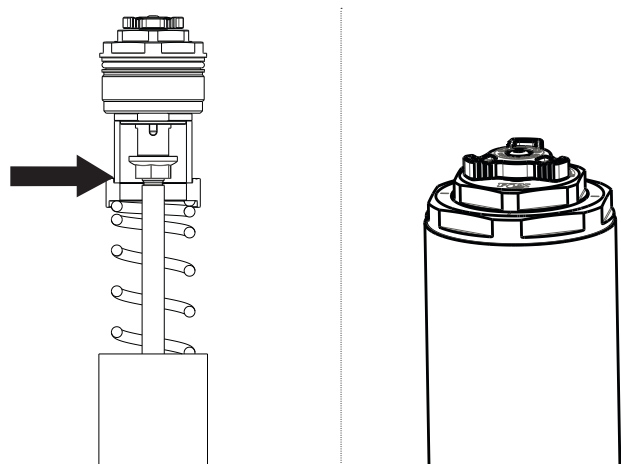

Fig. 16: Preload spacer seated on top cap (left; see arrow). Compress the top cap to thread and torque it onto the upper tube (right).
19. Check that the preload spacer is correctly seated on the top cap (Fig. 16; arrow), and that the spring, spring retainer, preload spacer, and top cap assembly are all aligned properly.
20. Compress the top cap and thread the top cap onto the upper tube (Fig. 16). Use a 45 mm wrench to torque the top cap to the manufacturer's specifications.